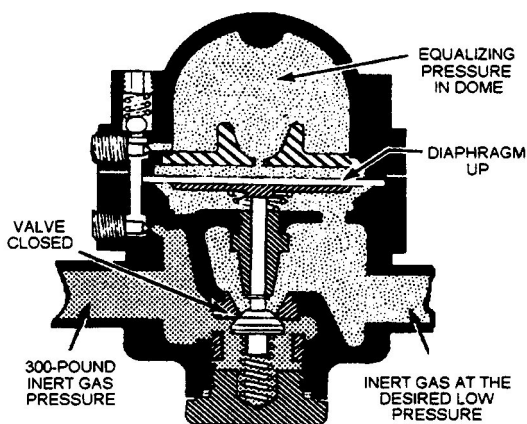

Figure 6-15.—Inert gas system balanced, valve closed.
5. The increasing gas pressure forces the diaphragm down and slowly opens the valve. Gas then flows through the valve opening into the low-pressure side of the valve and into the lower pressure chamber. There, the increasing pressure of the gas acts on the underside of the diaphragm, pushing it up to close the valve (fig. 6-15). When the low-pressure gages register the desired pressure, take the following actions: